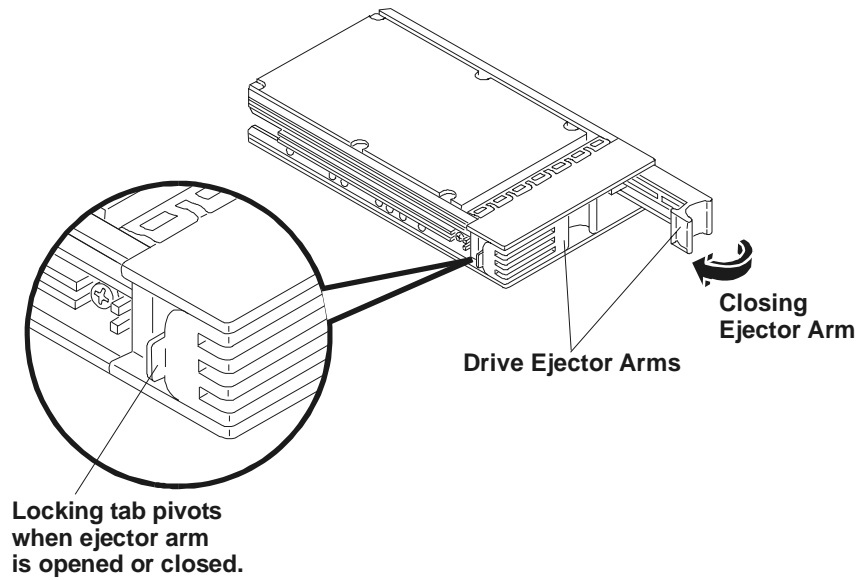

Figure 3-4. Closing Drive Ejector Arms
- b. Pull outward on both ejector arms, which moves the locking tabs inward. See Figure 3-4.
5. Close the ejector arms by rotating each one back into place. See Figure 3-4.
6. Verify the tab on each ejector arm engages the edge of the drive bay as you close it. See Figure 3-4.
- c. Pull both ejector arms toward you. See Figures 3-4 and 3-5.